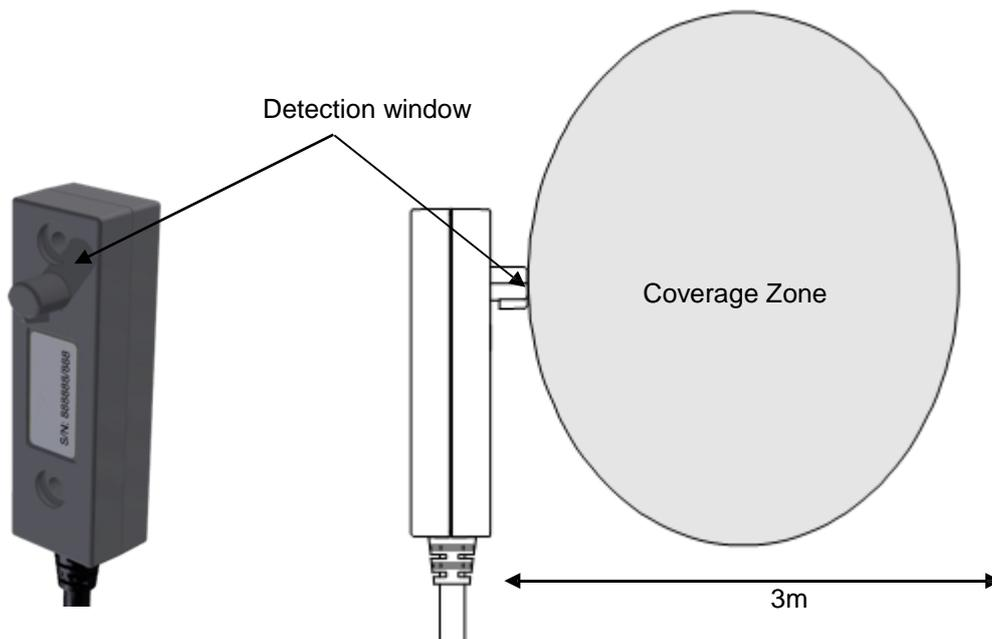

Figure 2: RA30A single detector & Coverage Zone
- Figure 2: RA30A single detector & Coverage Zone 5